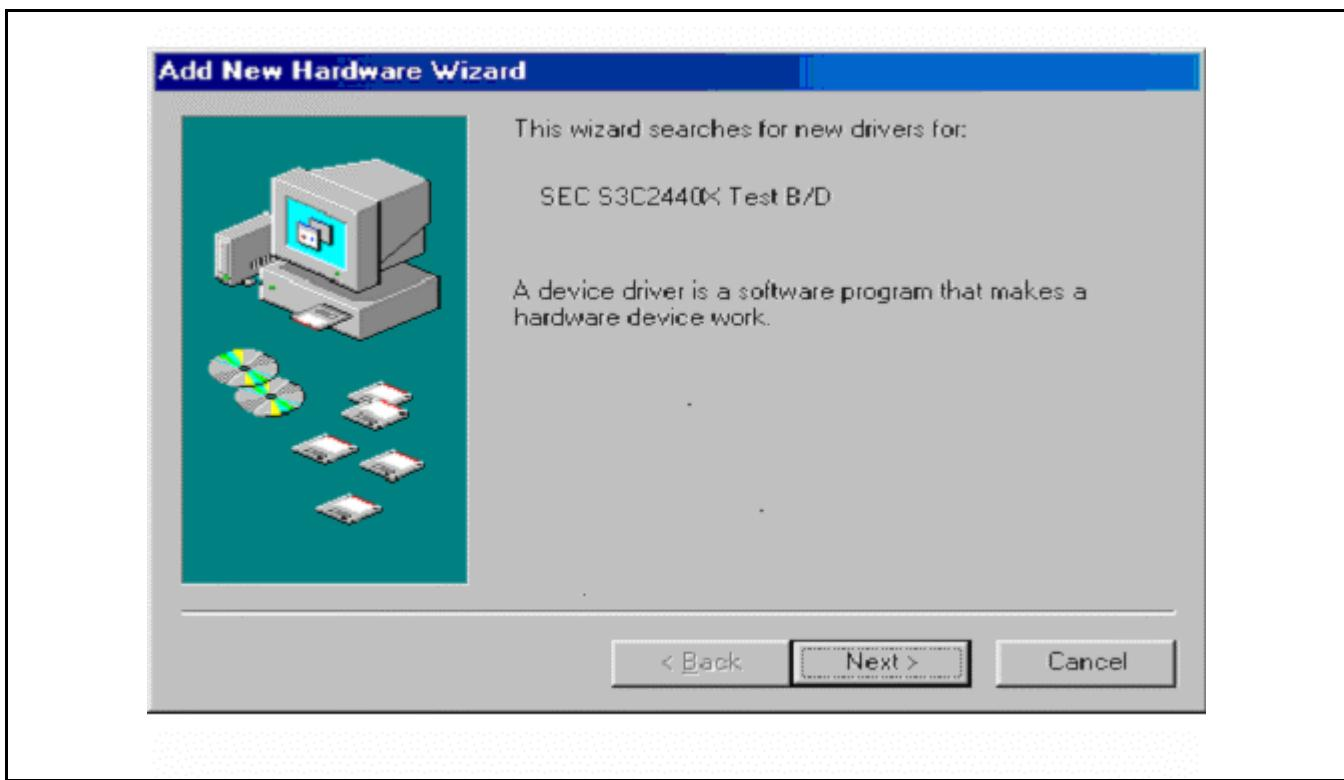

Figure 2-3. Add New Hardware Wizard (Window98)
5. Connect the SMDK2440 board with the PC (See Figure 2-3).